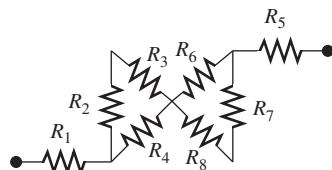

FIGURE P3.5 Circuit for Problem 3.5.
- 3.5 (A) Identify which resistors are in parallel and which are in series in Figure P3.5.